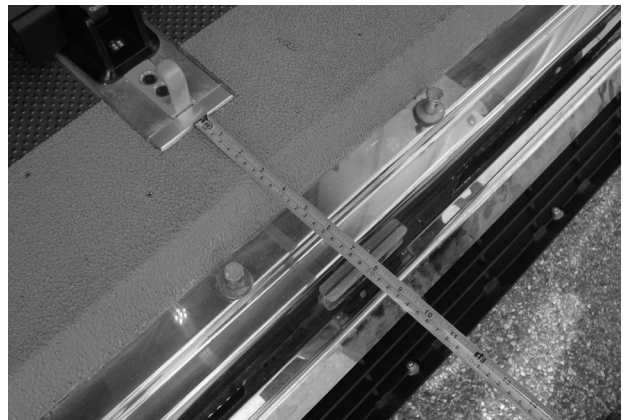

Figure 12: Measure for Anchor Installation
30. Measure from the end of the floor plate to the end of the bumper to determine how far you can move the anchor in towards the head end (Figure 12).